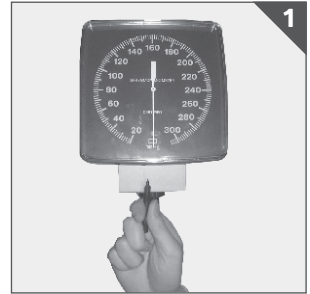

Figure 1
3. Slowly insert the screwdriver into the stem (where the cuff tubing was removed) until resistance is felt. (Fig1)